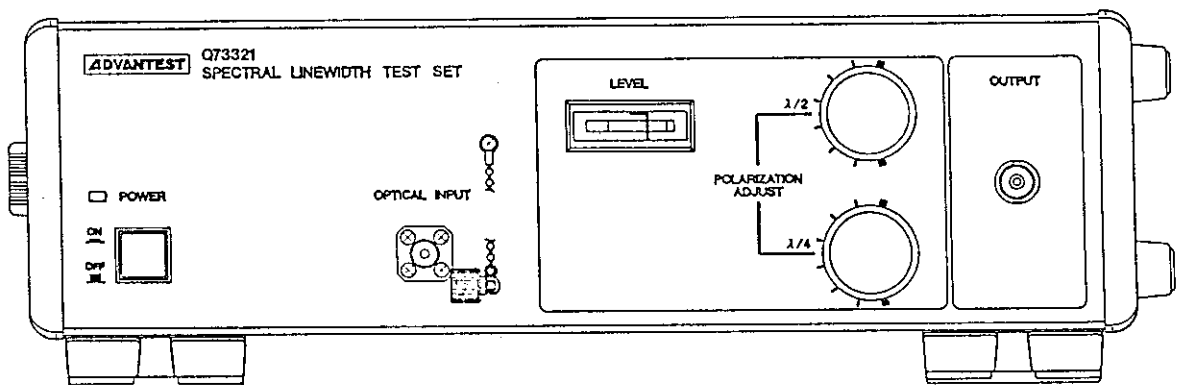

Figure 1 - 1 Q73321 optical spectral line width test set
- (1) The Q73321 optical spectral line width test set (see Figure 1 - 1) measures the spectrum distribution of a 1.55  $\mu\text{m}$  range distribution feedback type (DFB) laser. (The Q73321M test set also supports the 1.3  $\mu\text{m}$  range.)